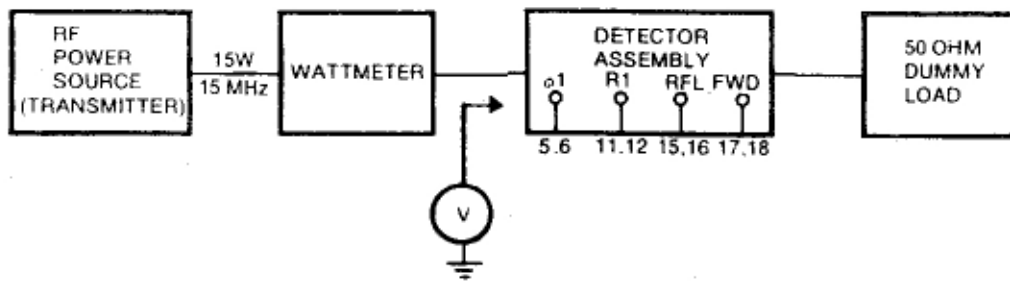

Figure 5.6 Detector Alignment Set-up
- 3) Connect the test set up as indicated in Figure 5.6. Detector assembly outputs are listed in Table 5.1.